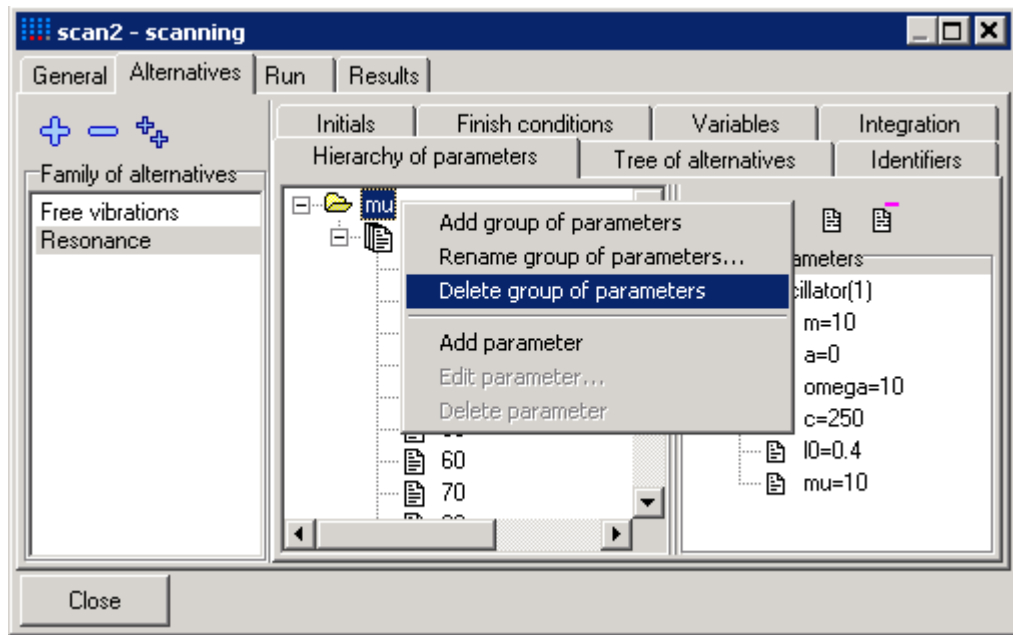

Figure 2.9. Deleting the group of parameters
2. Select the **mu** group of parameters and from the context menu select **Delete group of parameters**, see Fig. 2.9.